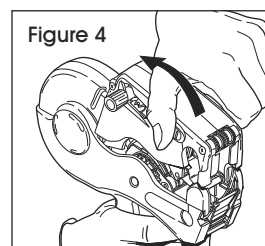

Figure 4
1. Pull the latches back and swing the cover open until it clicks. (See Figure 4)